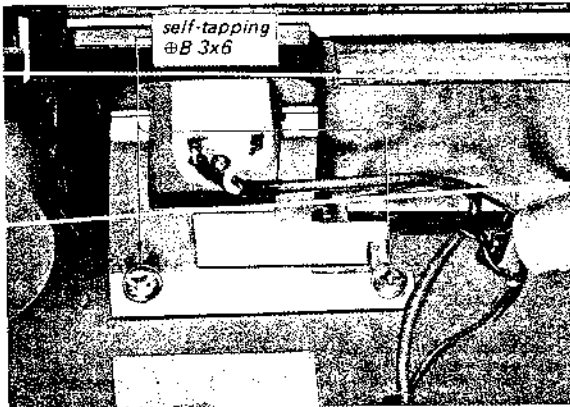

Fig. 2-13. Meter holder and stereo lamp removal
1. Remove the two self-tapping screws ($\oplus B 3 \times 6$) securing the meter holder to the chassis as shown in Fig. 2-13.
3. Remove the two self-tapping screws ($\oplus B 3 \times 6$) securing the meter holder to the chassis as shown in Fig. 2-13.